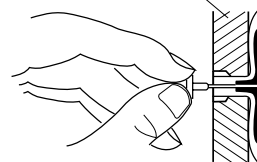

Figure 7 - Popping Open Anchor Wings For Thin Walls
4. For thin walls (1/2" or less), insert red key into wall anchor. Push red key to "pop" open anchor wings (see Figure 7). **IMPORTANT:** Do not hammer key! For thick walls (over 1/2" thick) or solid walls, do not pop open wings.